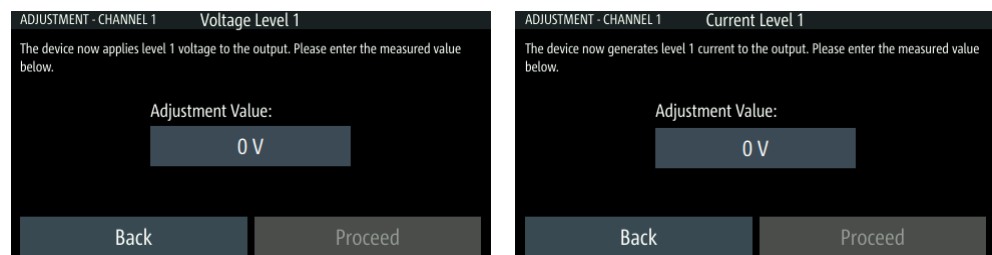

Figure 5-41: Channel adjustment procedure
- Based on the selection, the R&S NGT3600 applies a voltage/current respectively for the voltage/current adjustment. Key in the measured value from DMM using the on-screen keyboard. See Figure 5-41.